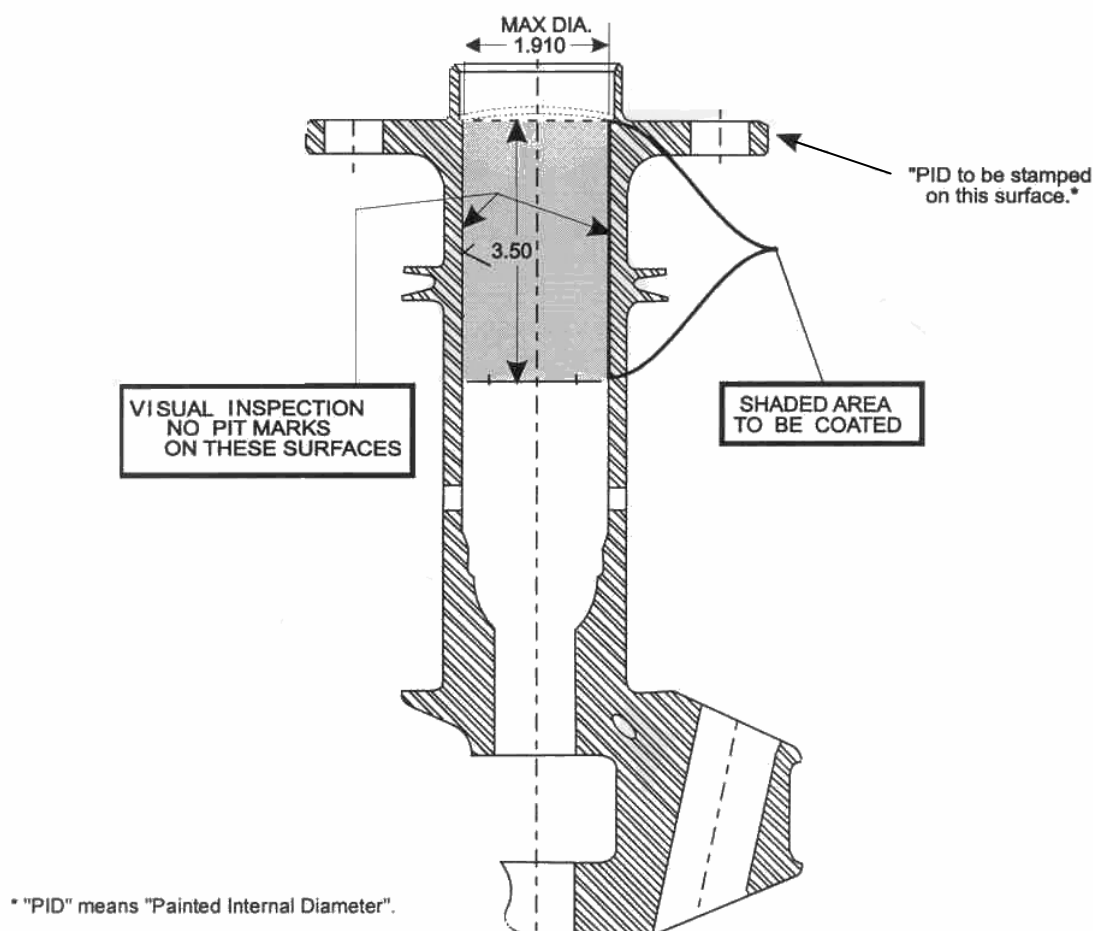

Figure 1. Area to be Coated
6. Apply coating using a 4" long nap paint roller replacement sleeve #54011** or equivalent attached to a length of 1/4" rod. Apply only to the 3.50" distance shown in Figure 1. The coating thickness must be 2.0-3.5 mils and coverage must be 100%. **Do not thin for application.**